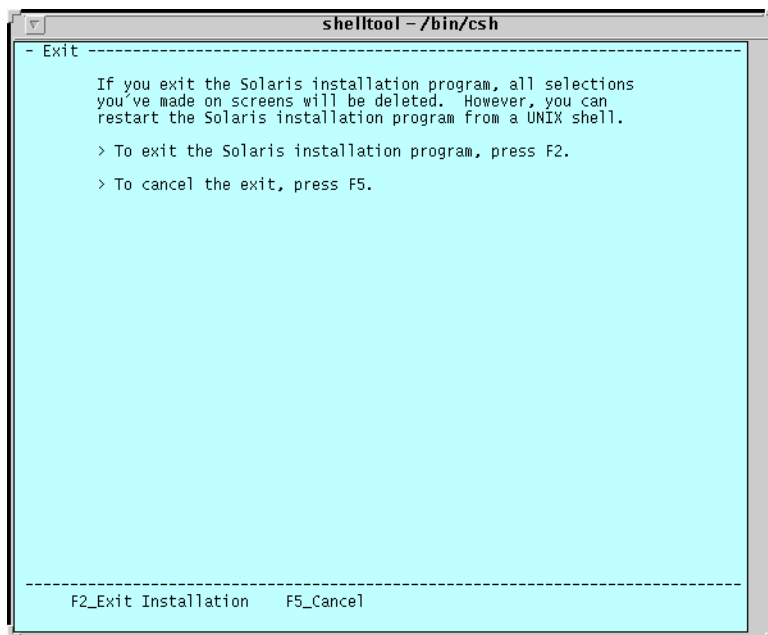

Figure C-10: Exit Solaris Installation Screen Example
6. To ensure proper formatting of the drive, press <F5> to exit the Solaris installation. The system pauses approximately 2 minutes. The Exit Solaris Installation screen displays (see Figure C-10).